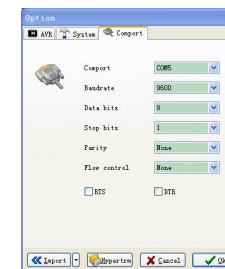

Fig. 12
- 5) At Option - Comport tab select the com port number corresponding to your scope and set parameters to 9600 baudrate, 8 data bits, 1 stop bit, and no parity (see Fig. 12).